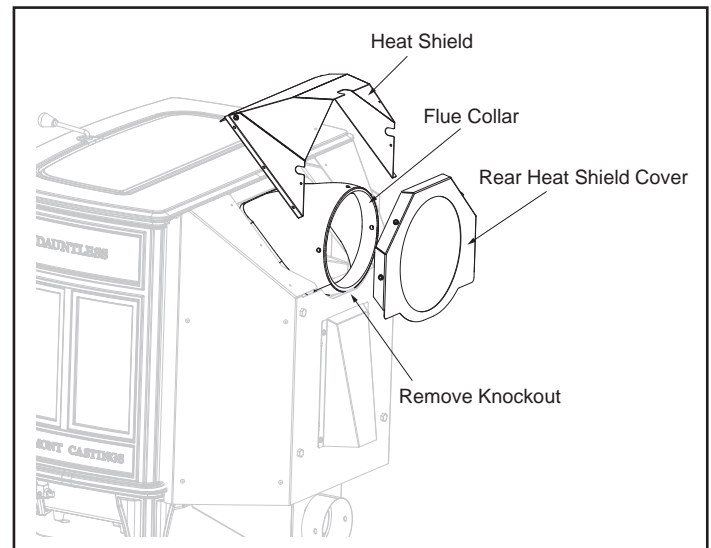

Figure 5.11
3. Turn flue collar to horizontal position. Inspect rope gasket located on the rear cast housing to ensure a leak free seal. Re-install flue collar, heat shield and heat shield cover, Figure 5.11.
**Note:** There is a knockout on the rear air jacket that will need to be removed prior to installing the flue collar for it to fit properly to the unit, Figure 5.11.